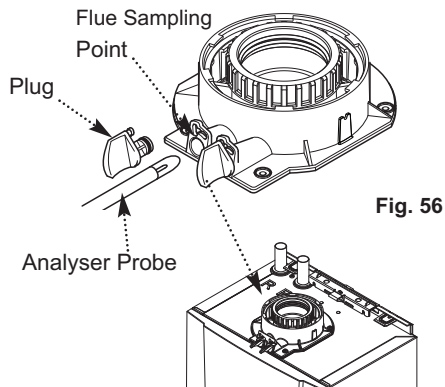

Fig. 56
3. Remove the plug from the flue sampling point (Fig. 56) and insert the probe of the flue gas analyser.